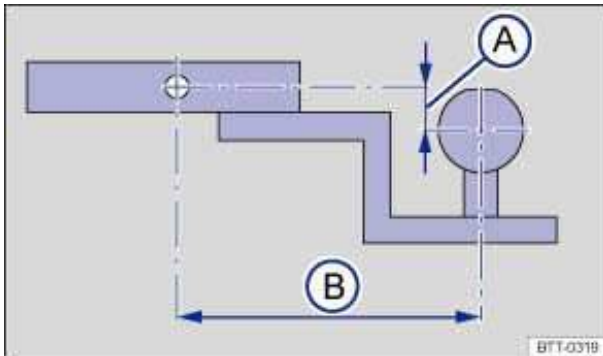

Fig. 95 Dimensions of the ball mount support.
The receiver used requires both a ball mount and a ball that meet special requirements regarding geometry and size. This applies to both the height of the ball above the surface where it attaches ⇒ fig. 95 (A), and the pin-to-ball distance (B).